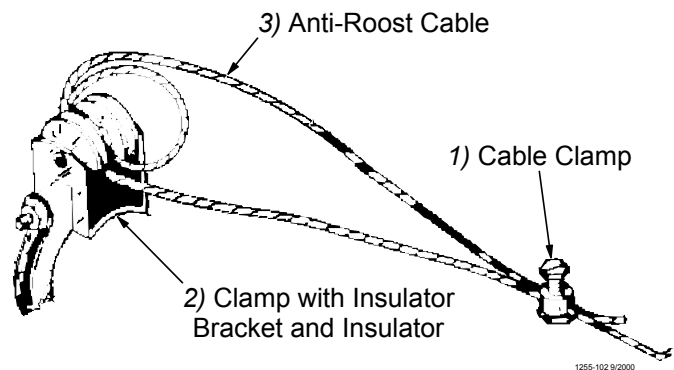

Figure 49. Anti-Roost Cable at the Hopper
2. Start at the hopper end of the line and form a loop around the anti-roost bracket. For best results, make a double loop around the anti-roost insulator in the center groove of the insulator and fasten with a 1/16" cable clamp as shown in **Figure 49**.